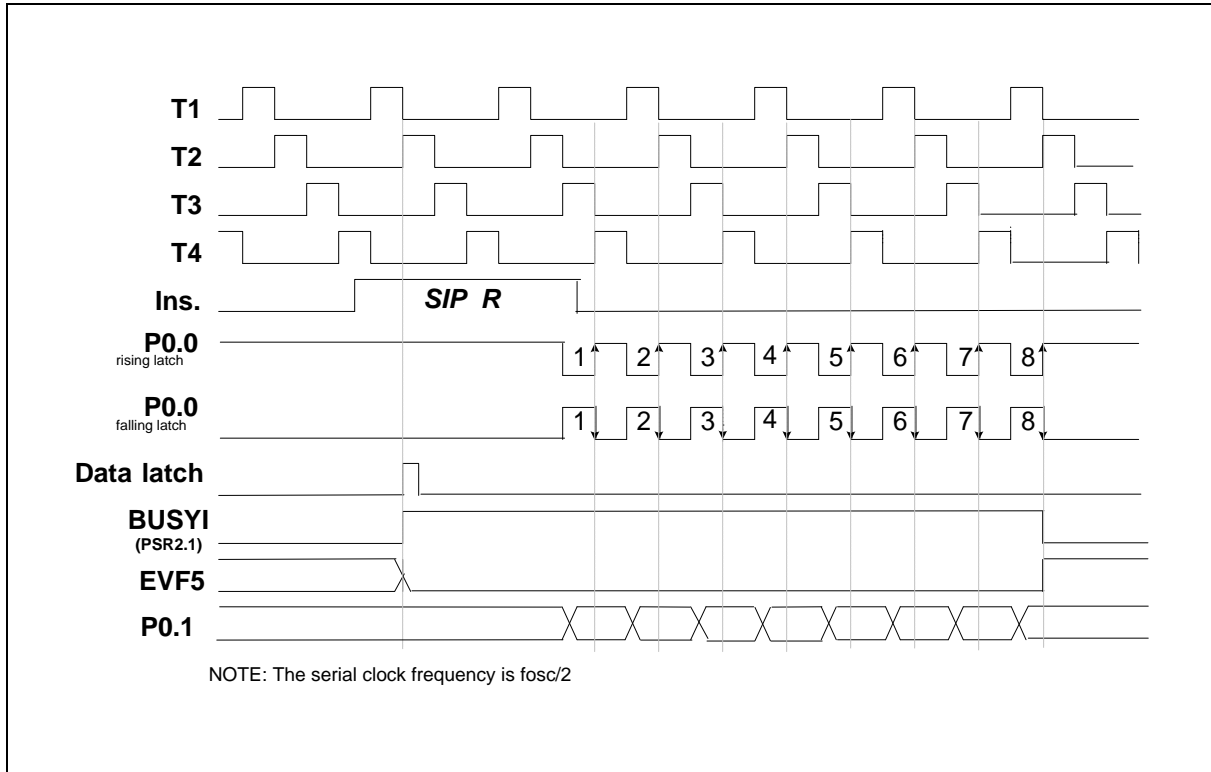

Figure 5-12 Timing of the Serial Input Function (SIP R)
- (1) When in the first time the SIP R instruction is executed, the data will be loaded to the ACC and RAM from the serial input buffer. But this data is not meaningful, it is used to enable serial port. There are two methods to get the serial data, one is interrupt and the other is polling. When enable the serial input, the bit 1 of port status register 2 (PRS2) will automatically be set to "1" ( $BUSY_I = 1$ ). Then the P0.0 pin will send out 8 clocks or accept 8 clocks from external device and the data from the P0.1 pin will be loaded to SIB buffer at the rising or falling edge of the P0.0 pin. After the 8 clocks have been sent,  $BUSY_I$  will be reset to "0" and EVF.5 will be set to "1." At this time, if IEF.5 has been set ( $IEF.5 = 1$ ), an interrupt is executed then the SIP R instruction can get the correct data from the serial input buffer (SIB), low nibble of SIB moves to ACC register and the high nibble moves to RAM; if HEF.5 has been set ( $HEF.5 = 1$ ), the hold state is terminated. The polling method is to check the status of PSR2.1 ( $BUSY_I$ ) to know whether the serial input process is completed or not. If a serial input process is not completed, but the SIP R instruction is executed again, the data will be lost. The timing is shown in Figure 5-12.